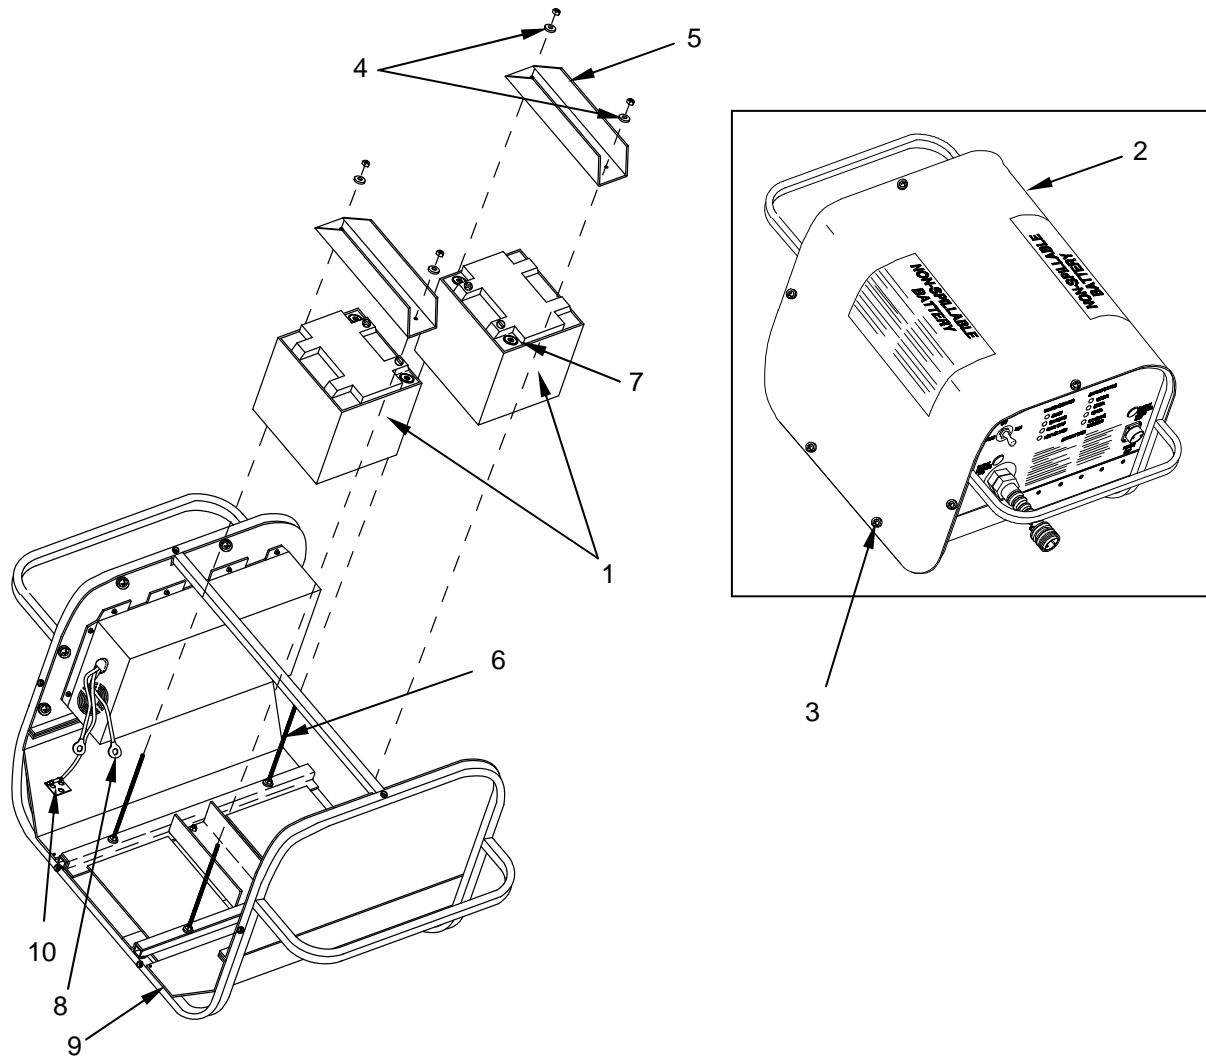

Figure 2. Replace the Batteries.
1. To replace the battery pack batteries (Figure 2, Item 1), remove the battery pack outer cover (Figure 2, Item 2) by removing the cover retaining fasteners (Figure 2, Item 3) with a suitable screwdriver. Retain the fasteners for reassembly.
2. Remove the two nylon locking nuts and washers (Figure 2, Item 4) on the hold-down bracket (Figure 2, Item 5) of the battery being replaced.
3. Lift the hold-down bracket (Figure 2, Item 5) off the threaded shafts (Figure 2, Item 6) and remove.
4. Loosen and remove the battery terminal hex head bolts (Figure 2, Item 7) that secure the power leads (Figure 2, Item 8) to the battery terminals of the battery being replaced.
Take care when handling the batteries, as each weighs approximately 35 pounds. Due to their weight, the batteries may stick to the neoprene cushion of the battery pack base plate (Figure 2, Item 9) and may require a moderate amount of force to break the bond.
5. Remove the defective battery (Figure 2, Item 1) and set aside.
6. Install the new battery (Figure 2, Item 1) onto the battery pack base plate (Figure 2, Item 9).
7. Slide the hold-down bracket (Figure 2, Item 5) onto the threaded shafts (Figure 2, Item 6).
8. Reinstall the two nylon locking nuts (Figure 2, Item 4) on the hold-down bracket (Figure 2, Item 5) of the battery.
9. Reconnect each power lead (Figure 2, Item 8) making sure to attach the "RED" lead to the positive (+) battery terminal and the temperature sensor (Figure 2, Item 10) under the "BLACK" negative lead of the negative (-) battery terminal. Secure the power lead to the battery terminals with hex head bolts (Figure 2, Item 7).
10. Dispose of defective batteries (Figure 2, Item 1) IAW unit SOP or in an environmentally approved manner per local commander's requirements.
11. Install the battery pack outer cover (Figure 2, Item 2) and secure with the retained fasteners (Figure 2, Item 3).